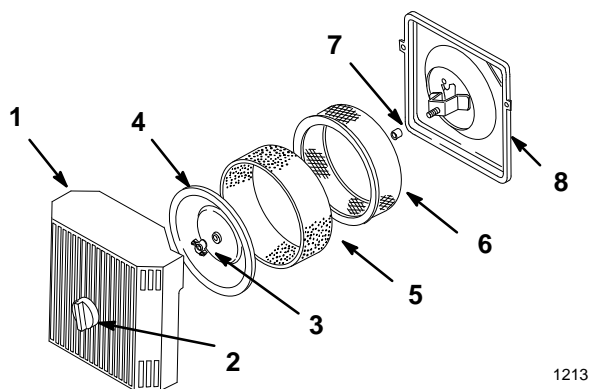

Figure 17
3. Clean around the air cleaner to prevent dirt from getting into the engine and causing damage. Remove knob and the air cleaner cover (Fig. 17).
4. Carefully slide the foam element off the paper element (Fig. 17).
5. Unscrew the cover nut and remove the cover and paper element (Fig. 17).
1. Carefully slide the foam element onto the paper air cleaner element (Fig. 17).
2. Slide the air cleaner assembly and cover onto the long rod. Now screw the cover nut finger-tight against the cover (Fig. 17).
3. Install the air cleaner cover (Fig. 17).